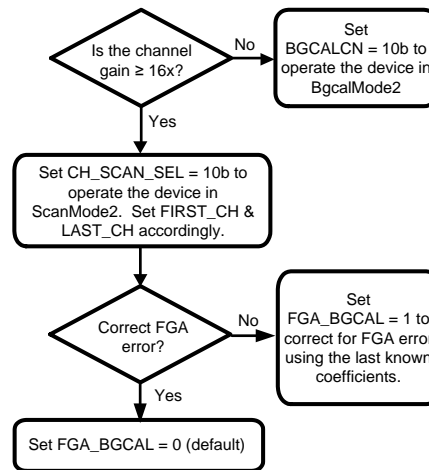

Figure 40. BgcalMode2 Register Settings
- BgcalMode2: Offset Correction / Gain Correction. Follow Figure 40 to set other appropriate registers when using this mode.